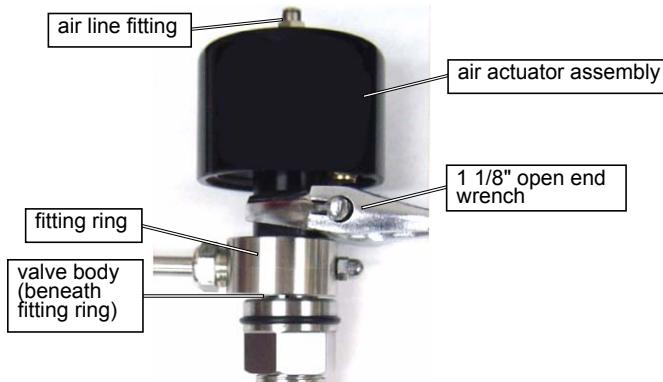

Figure 5-36
3. Remove the air line from the **air line fitting** on top of the **air actuator assembly** (Figure 5-36) and move it out of the way.
6. Reinstall the **air actuator assembly**. Use the 1-1/8" crows foot and torque to 252 in-lb (28.5 N·m). Refer to Figure 5-36.